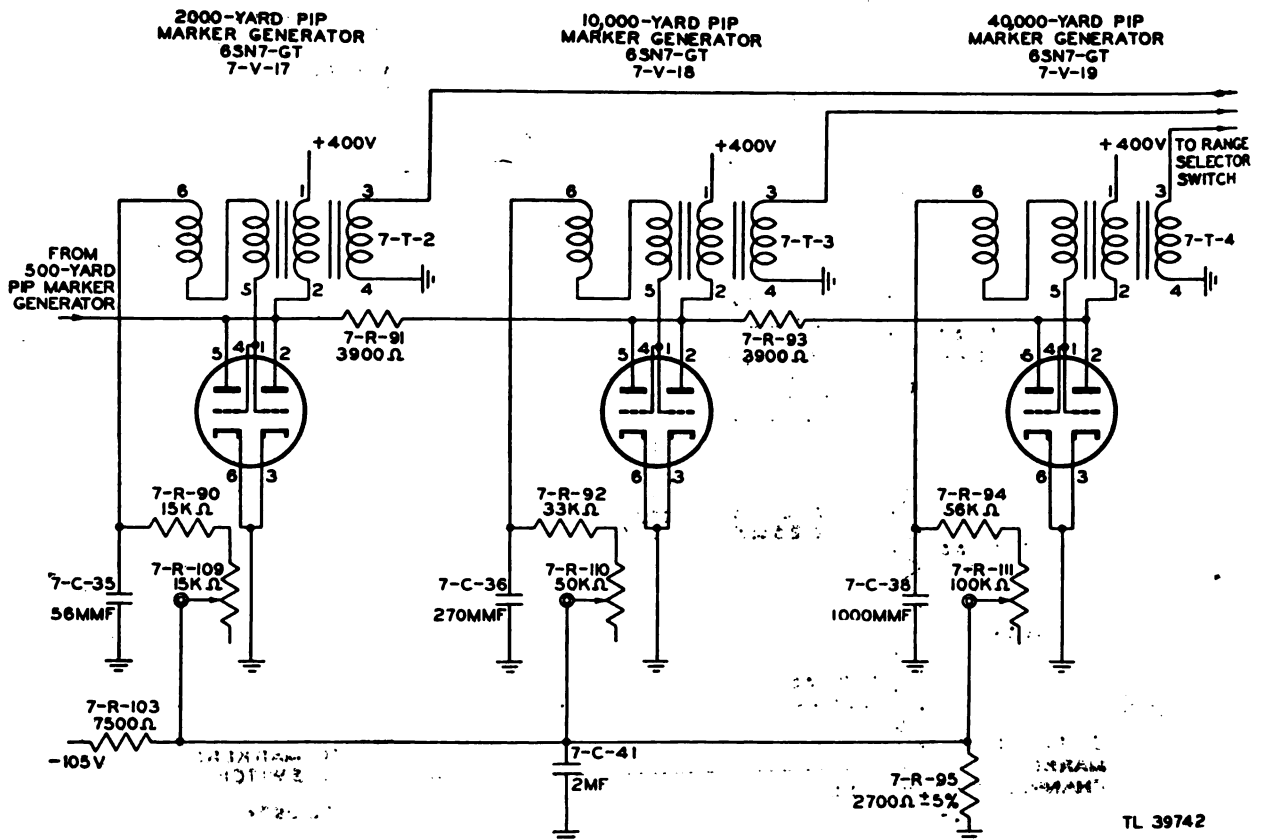

Figure 126. Pip marker generator (2,000-, 10,000-, and 40,000-yard), simplified schematic diagram.
**f. 2,000-, 10,000-, AND 40,000-YARD PIP MARKER GENERATORS.** These stages, 7-V-17, 7-V-18, and 7-V-19 (fig. 126), of the unit are triggered by the stage immediately preceding it. Each in turn develops the required range marker pips for the selected range. In brief, the result is as follows:
- (1) The 10,000-yard range displays 500-yard fine pips and 2,000-yard coarse pips.
- (2) The 40,000-yard range displays 2,000-yard fine pips and 10,000-yard coarse pips.
- (3) The 160,000-yard range displays 10,000-yard fine pips and 40,000-yard coarse pips.
- (4) The 240,000-yard range displays 40,000-yard coarse pips.
j. 2,000-, 10,000-, AND 40,000-YARD PIP MARKER GENERATORS. These generators, 7-V-17, 7-V-18, and 7-V-19, supply range marker pips to the PPI-scope grid in such a way that 2,000-, 10,000-, and 40,000-yard range markers appear on the scope screen when it is desired to determine accurately the range of a target (fig. 126).
(1) The 160-volt pulse from the 500-yard pip marker generator is applied to terminal 2 (plate winding) of the 2,000-yard pip marker generator transformer, 7-T-2, through resistor 7-R-89. The grid of 7-V-17 is connected through the grid winding of the transformer to the junction of resistors 7-R-103 and 7-R-95, the voltage divider connected between -105 volts and ground, thus biasing the tube beyond cut-off. Current, due to the negative pip marker pulse impressed across the plate winding of transformer 7-T-2, causes a voltage to be induced across the grid winding of the transformer such that the grid is driven sharply above cut-off. Plate current flows through the transformer causing a still higher grid voltage; this voltage in turn causes the plate current to increase further. This cumulative effect results in plate-current saturation in an